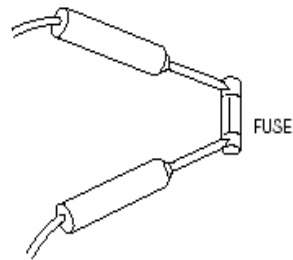

Fig. 6
- Check continuity of fuse by the multimeter (Fig. 6).